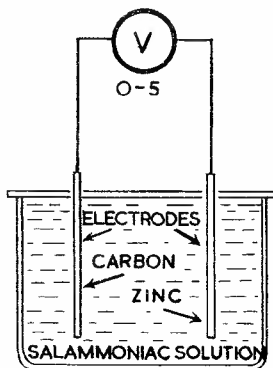

FIG. 1.
STEP 5.A Repeat STEP 3, using carbon and zinc electrodes (Fig.1). CONNECT LAMP.